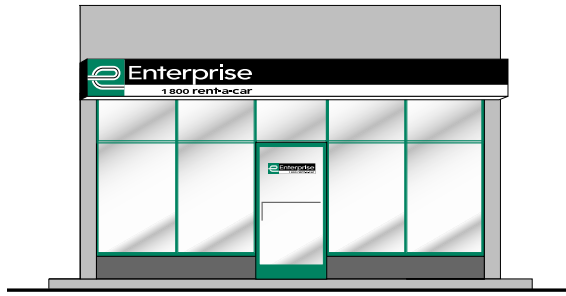

Figure 1
- e) Start and stop the fascia band at a logical point, such as a door or a window (Figure 2) or a corner of the building (Figure 1). When in doubt, ask one of the approved sign vendors to do renderings.